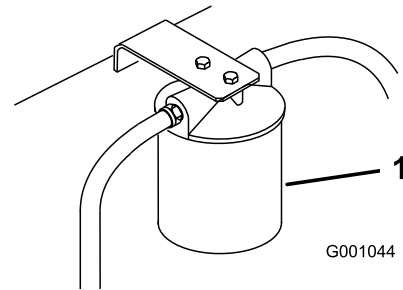

Figure 77
3. Place drain pan under filter, remove the old filter and wipe the filter adapter gasket surface clean (Figure 77).